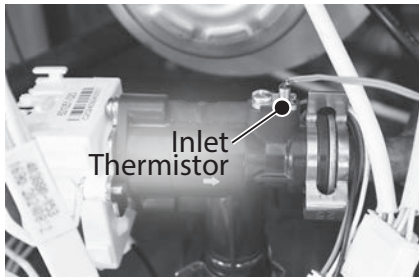

Figure 66 - Water inlet thermistor location
- 23** Locate the water inlet thermistor as shown in Figure 66.